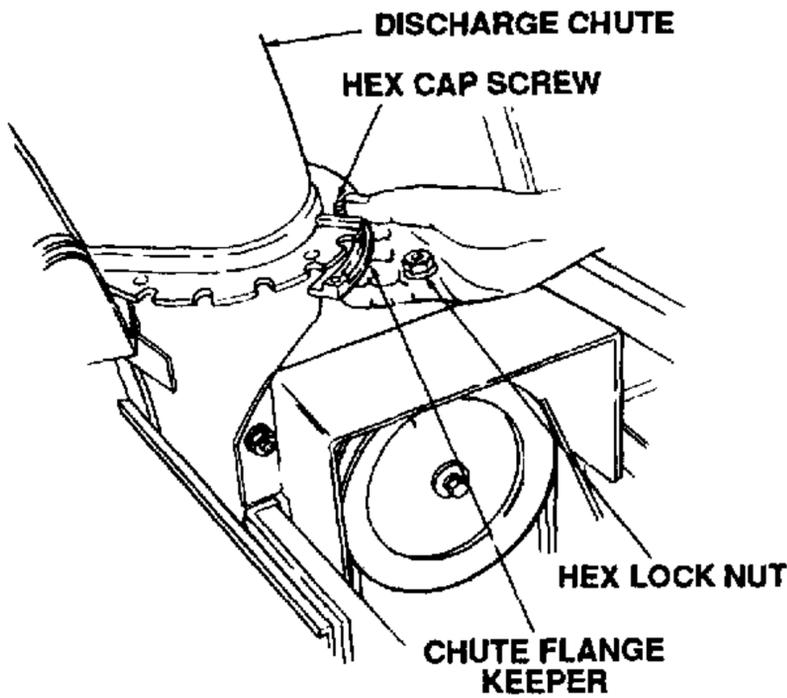

Figure 7-27. Installing Discharge Chute.
3. With their flat surface facing down, place the chute flange keepers (3, Fig. 7-24) beneath the flange of the discharge chute (6) and the flange on the chute opening of the housing (see Fig. 7-27). Insert the hex cap screws (4) up through the flange keepers and discharge chute flange as shown in Figure 7-27, and secure with the hex flanged lock nuts (5). Tighten all lock nuts until snug, then back off (loosen) 1/4 turn.